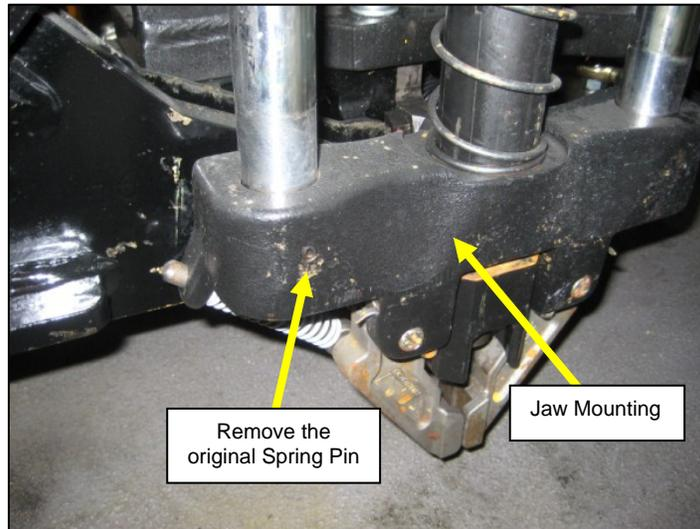

Figure 1
2. Drive out the Guide Rod Spring Pin with a 1/4" pin punch. See Figure 1.